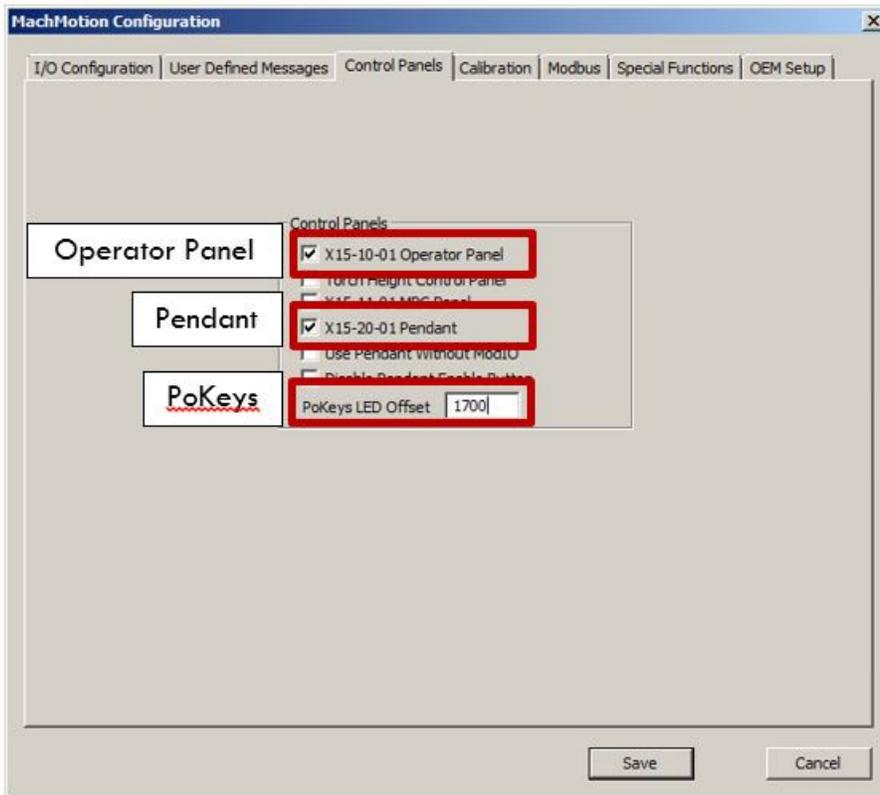

Figure 12 - Machmotion Plugin Control Panel Options
3. Check the box for X15-10-01 Pendant (see Figure 12)
4. Set the PoKeys LED Offset to 1700 (see Figure 12)
3. Check the box for X15-20-01 Operator Panel (see Figure 12)